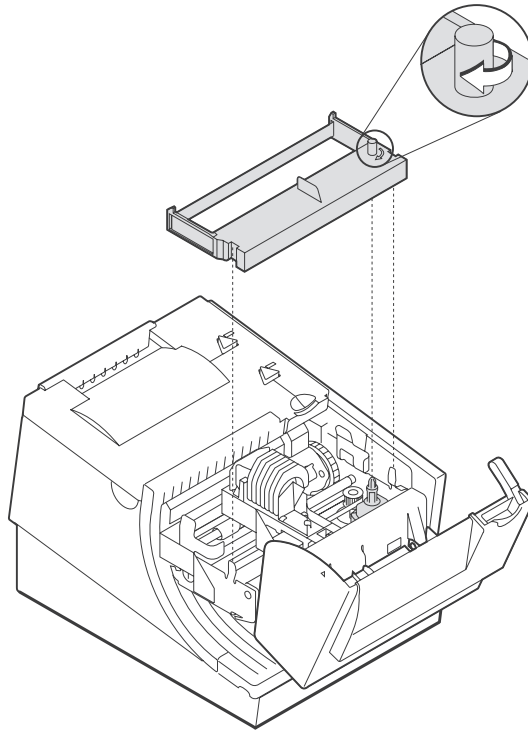
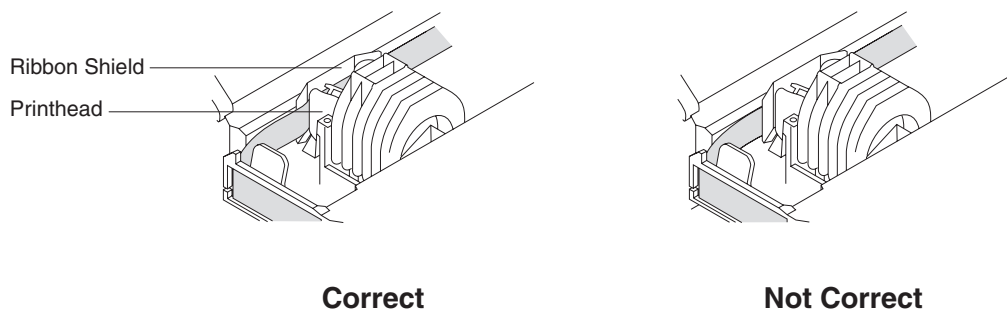

Figure 21. Ribbon Cartridge Loading
Figure 22. Ribbon Path around the Printhead
3. Maintain ribbon tension by turning the ribbon cartridge knob as shown in Figure 21. Lower the cartridge into position until the notches on its sides snap into place on the printer guides. Once the cartridge is in place, turn the knob until the ribbon slides into place between the printhead and the ribbon shield. See Figure 22 for correct ribbon positioning.